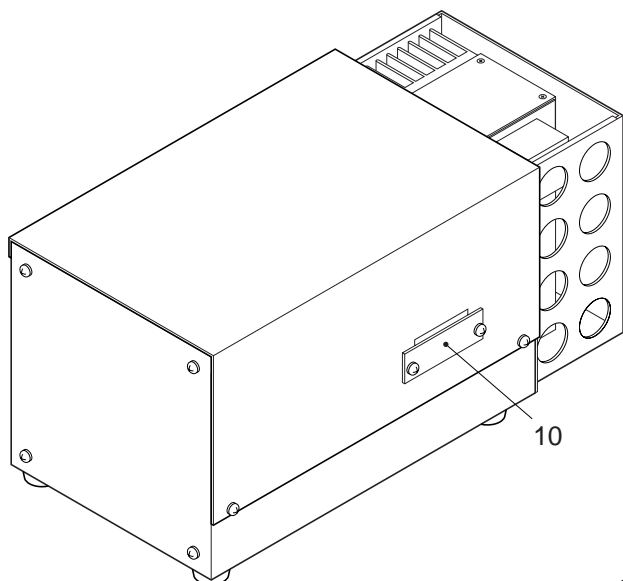

Fig. 2-1 Front view
- (1) The analyzer undergoes stringent inspections at the factory to assure the function as a precision measurement device, and is packed with extreme caution in to avoid receiving a shock during transportation. Unpack carefully paying attention not to give a strong shock to the analyzer. When unpacking is completed, check the analyzer visually for flaws, cracks, or displacement of parts (refer to Figs. 2-1 and 2-2). The following accessories are attached to the analyzer. Check that no parts are missing.
- (2) Standard accessories